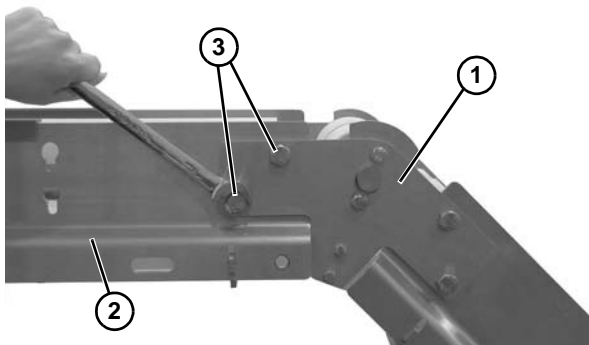
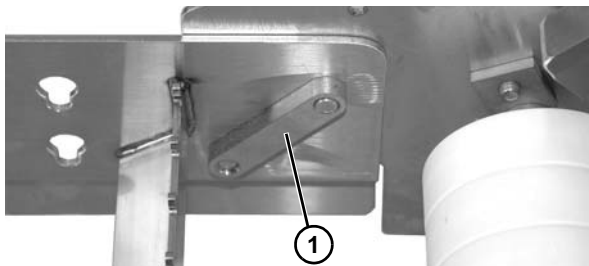

Figure 6
Figure 7
1. Attach upper knuckle (**Figure 6, item 1**) to frame (**Figure 6, item 2**) by using two cap screws (**Figure 6, item 3**) and connector plate (**Figure 7, item 1**) on each side of conveyor.